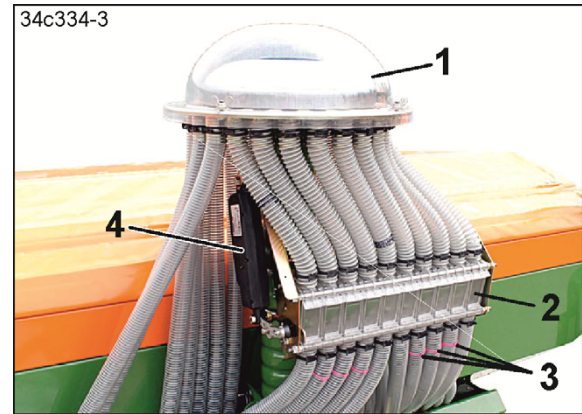

Fig. 47
In the distributor head (Fig. 47/1), the metered material is distributed evenly over all of the connected seed lines and delivered to the coulters.
- the flaps in the flap box (Fig. 47/2) interrupt the seed supply to the seed lines (Fig. 47/3) of the tramline coulters. An electric motor (Fig. 47/4) actuates the flaps.